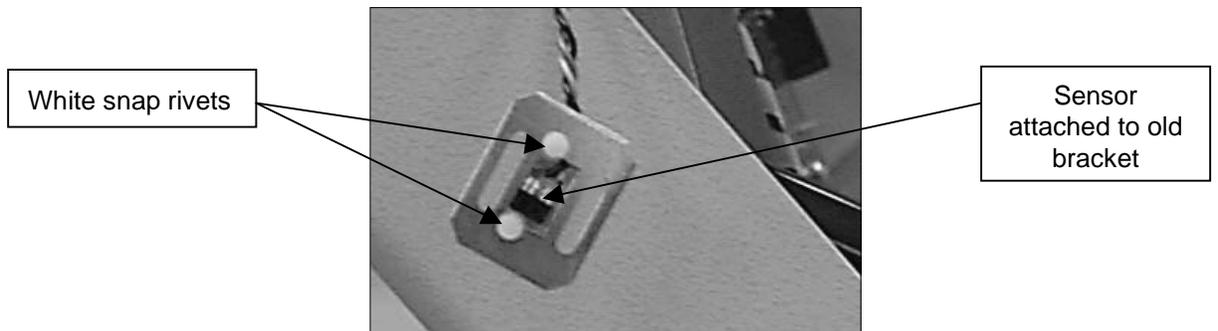

Figure 2
5. Holding the old bracket assembly—taking caution not to excessively pull on the sensor wires—use a screwdriver or metal shim to pop out the white plastic snap rivets and washers (see fig. 2), thus disconnecting the sensor from the bracket.